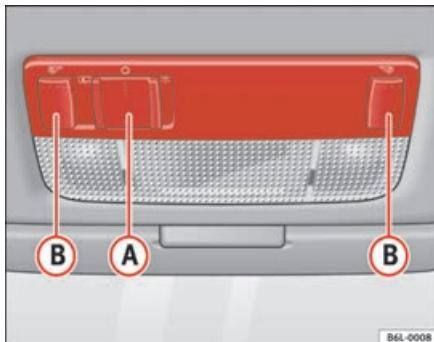

Fig. 63 Front reading light
Press the corresponding button (B) \Rightarrow fig. 63 to switch on the reading light.